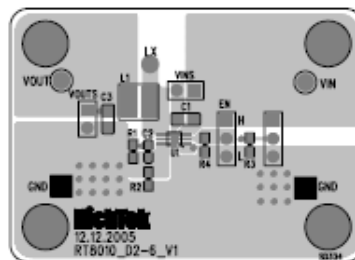
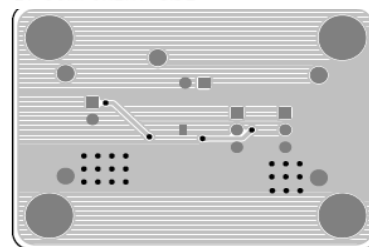

Figure 7. Top Layer
Figure 8. Bottom Layer
- } An example of 2-layer PCB layout is shown in Figure 7 to Figure 8 for reference.